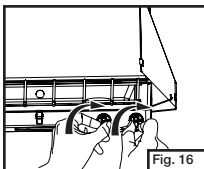
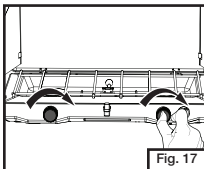

Fig. 16
Fig. 17
- Close both burner valves firmly. (Fig. 16 and Fig. 17)